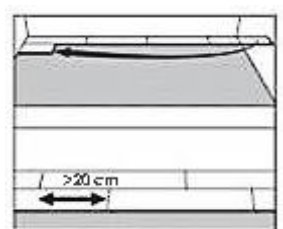

Figure 2
10. Position the first plank of the second row by angling it up slightly, pushing forward and interlocking the side tongue (**Figure 2**). Slide the plank to the right to align the edges of the end joint.